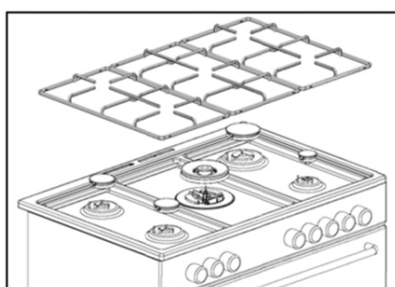

Fig. 11 (representation only)
- 2) Remove the grids from the work surface (Fig. 11).
- 3) Remove the burners (Fig. 11).